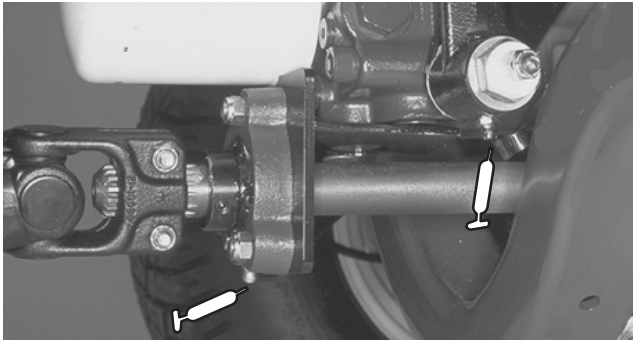

Figure 39
- Traction control linkage at transmission (1), Drive shaft support bearing (1), Rear axle drive shaft (3) (Fig. 39)